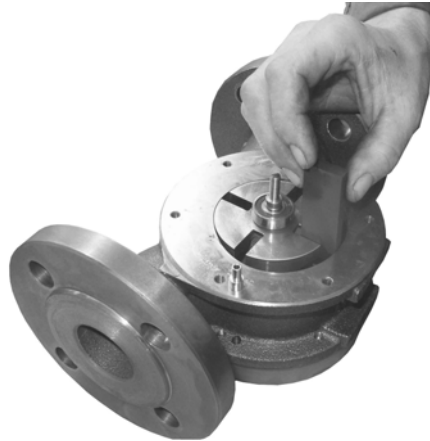
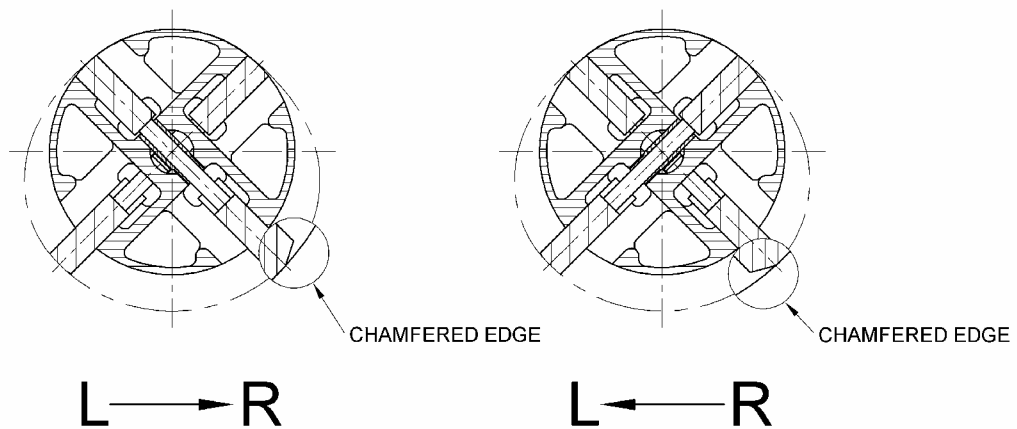

Figure 39
Figure 40
4. Insert the four (4) vanes one by one into the slots of the rotor, starting with the vane nearest to the inlet connection. Continue with the opposite vane. Then rotate the rotor 1/4 turn and insert the other vanes in the same order (Figure 39). The chamfered edge of each vane must be in the rotating direction of the rotor, as shown in Figure 40 for flow meters with flow direction from left to right and from right to left. The top of the vanes must be flush with the upper surface of the rotor.